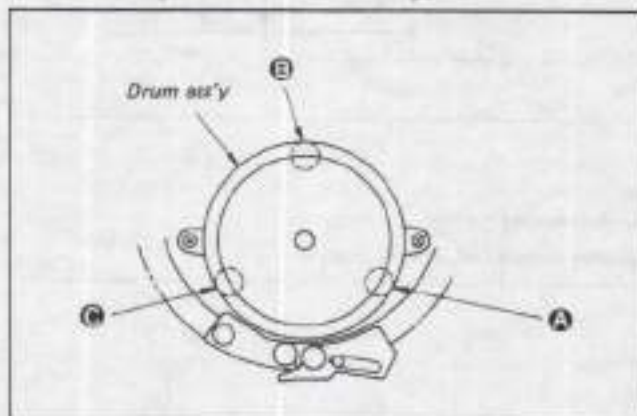

Fig. 3-51
If the tape does not run parallel to the upper flange, insert a drum spacer as shown in ⑤ of Fig. 3-51.